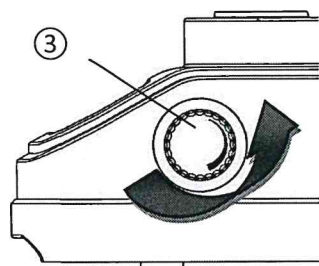
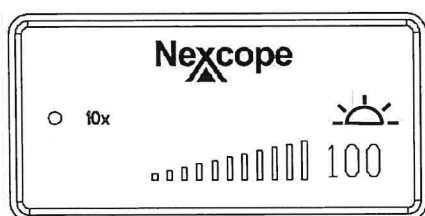
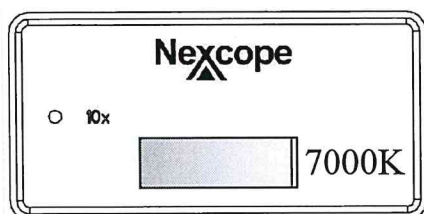

Fig.2
Fig.3
Fig.4
4-2 Adjust the brightness and color temperature (Fig.2,3,4,5,6,7)
The adjustment knob ③ adjust the brightness when the screen is shown as Figure 3. Turning the brightness adjustment knob according to the direction indicated by an arrow on the figure 2, the brightness decreases. On the contrary, the brightness strengthen.
The knob adjust the color temperature when the screen is shown as Figure 4. Turning the color temperature adjustment knob according to the direction indicated by an arrow on the figure 2, the color temperature decreases. On the contrary, the color temperature strengthen.